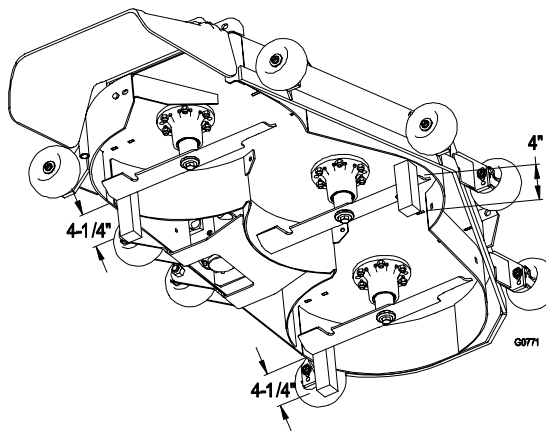

FIGURE 14
- e) Lower the deck to the 4" cut height position and remove ignition key. Orient the blades longitudinally with respect to the machine. Stand a wooden block approximately 5" long next to the front blade tip of the center blade; mark the location of the blade tip on the block. Remove the block and measure height on the block, it should be 4". Repeat this process for the rear blade tip of both the left and right blades, those should measure 4-1/4" to give the recommended 1/4" positive rake. See Figure 14.